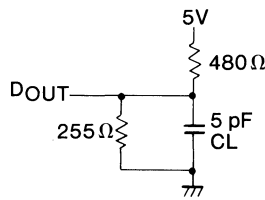

Figure 2 Output Load
2. T_{CX} and T_{OTD} are measured ±200 mV from steady state voltage with specified loading in Figure 2.
5. T_{OTW} and T_{OW} are measured ± 200 mV from steady state voltage with specified loading in Figure 2.